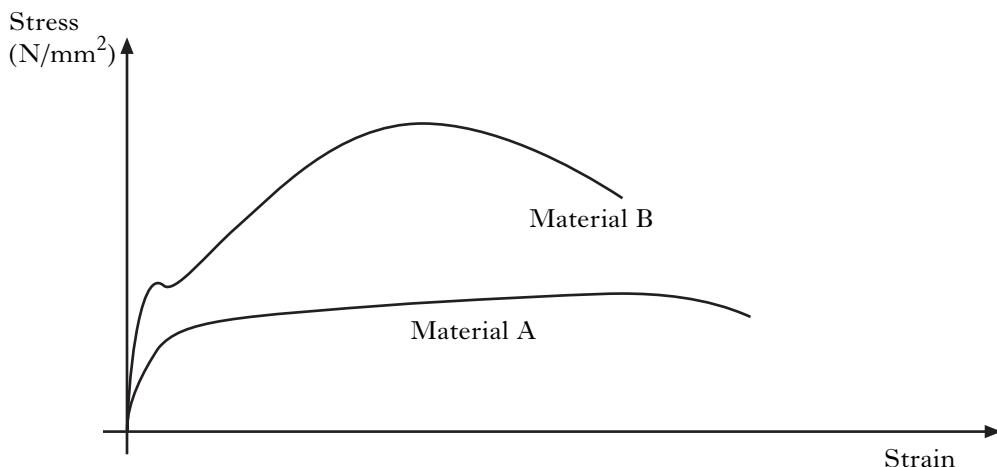

Figure Q2
2. The stress-strain graphs for two different materials are shown in Figure Q2.
- (a) From the information given in Figure Q2, state **one** property of material A, giving a reason for your choice.